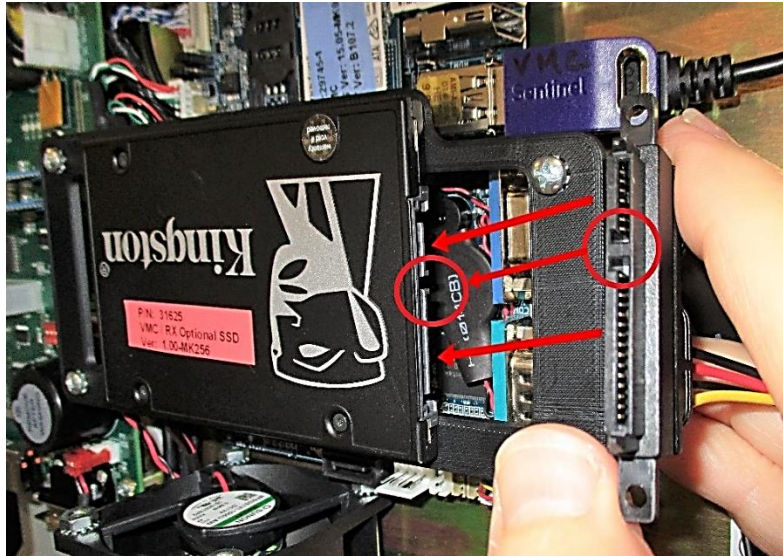

Figure 6.1.7c
5. Install Cable on SSD card which consists of either two separate cables (power and data) or one cable with two wires attached. Each cable has a notch on the connector that only permits the cable to be installed one way due to the matching notch on the SSD and the sizes of the wires as shown in Figure 6.1.7c.